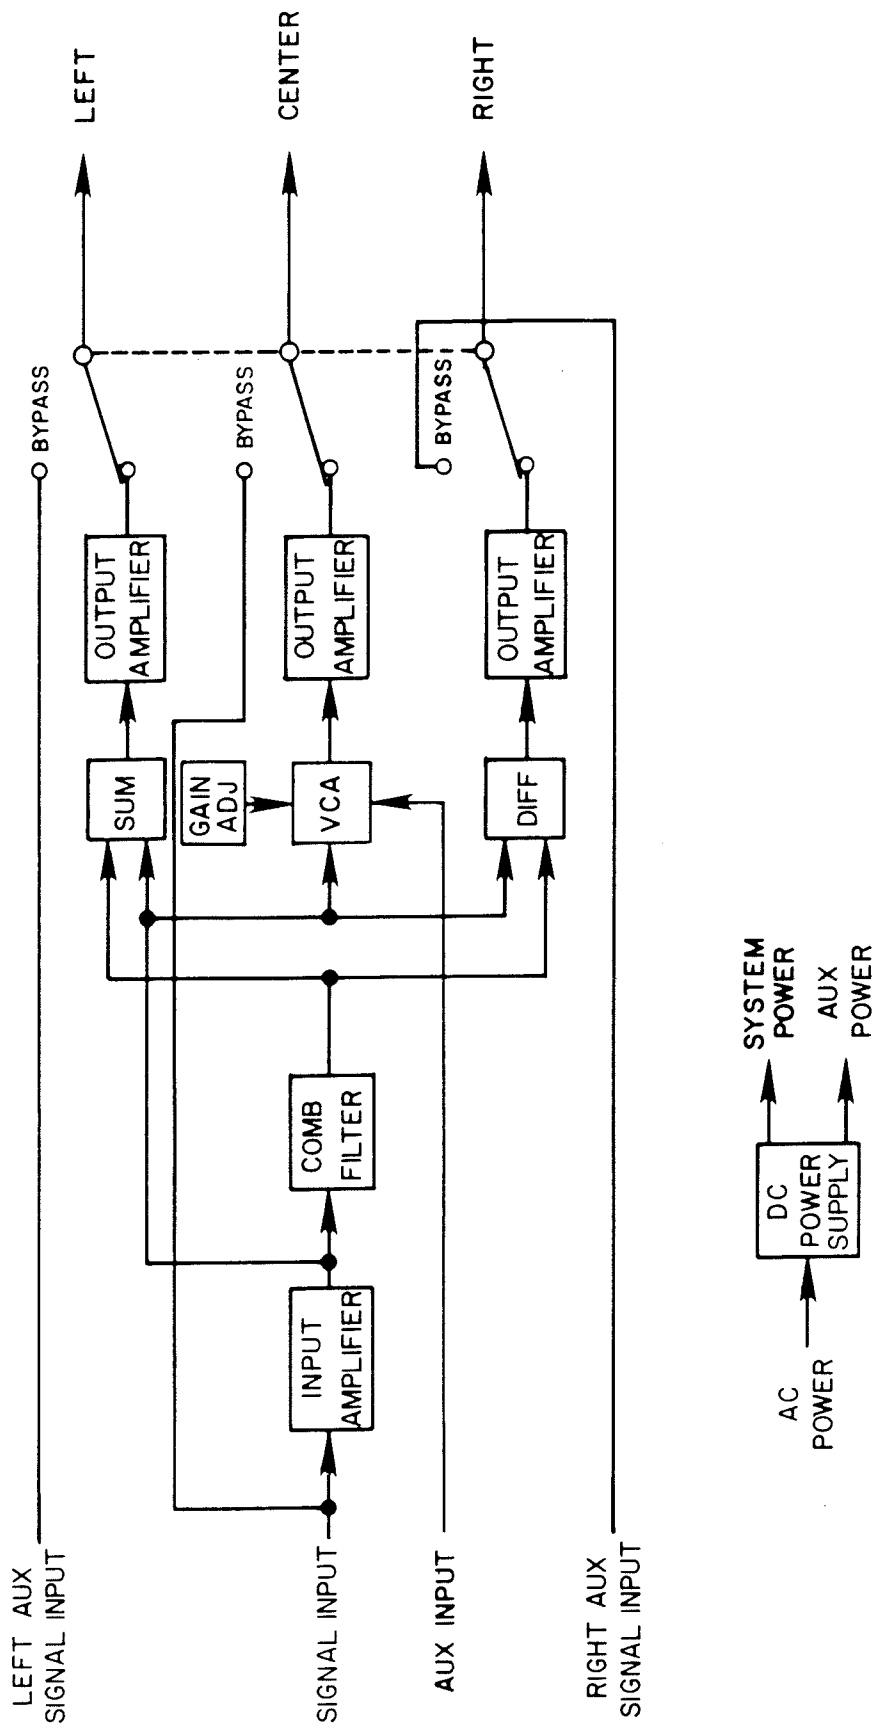

FIGURE 3.6. FLOW CHART OF THE KT-22.
3.6.1 Flow Chart - SEE FIG. 3.6